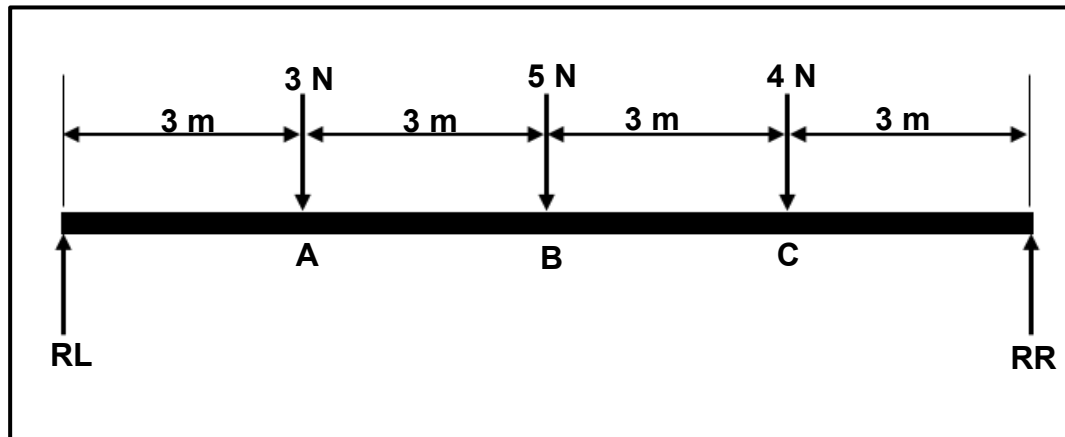

FIGURE 7.2
- 7.2 FIGURE 7.2 below shows a simply supported beam subjected to THREE point loads.